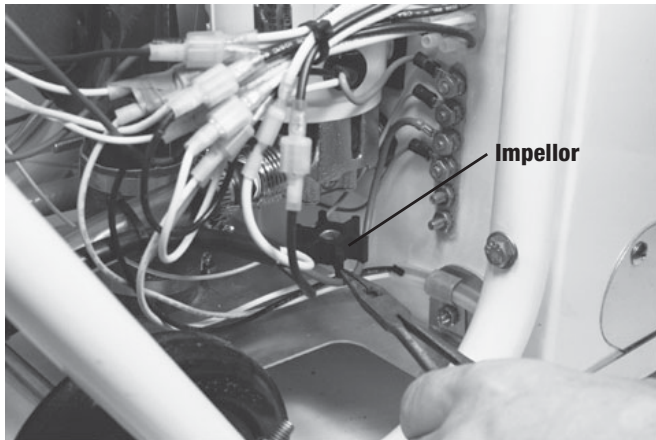

Figure 9
4. Pull impeller out of pump head with needle-nose pliers (fig 9).